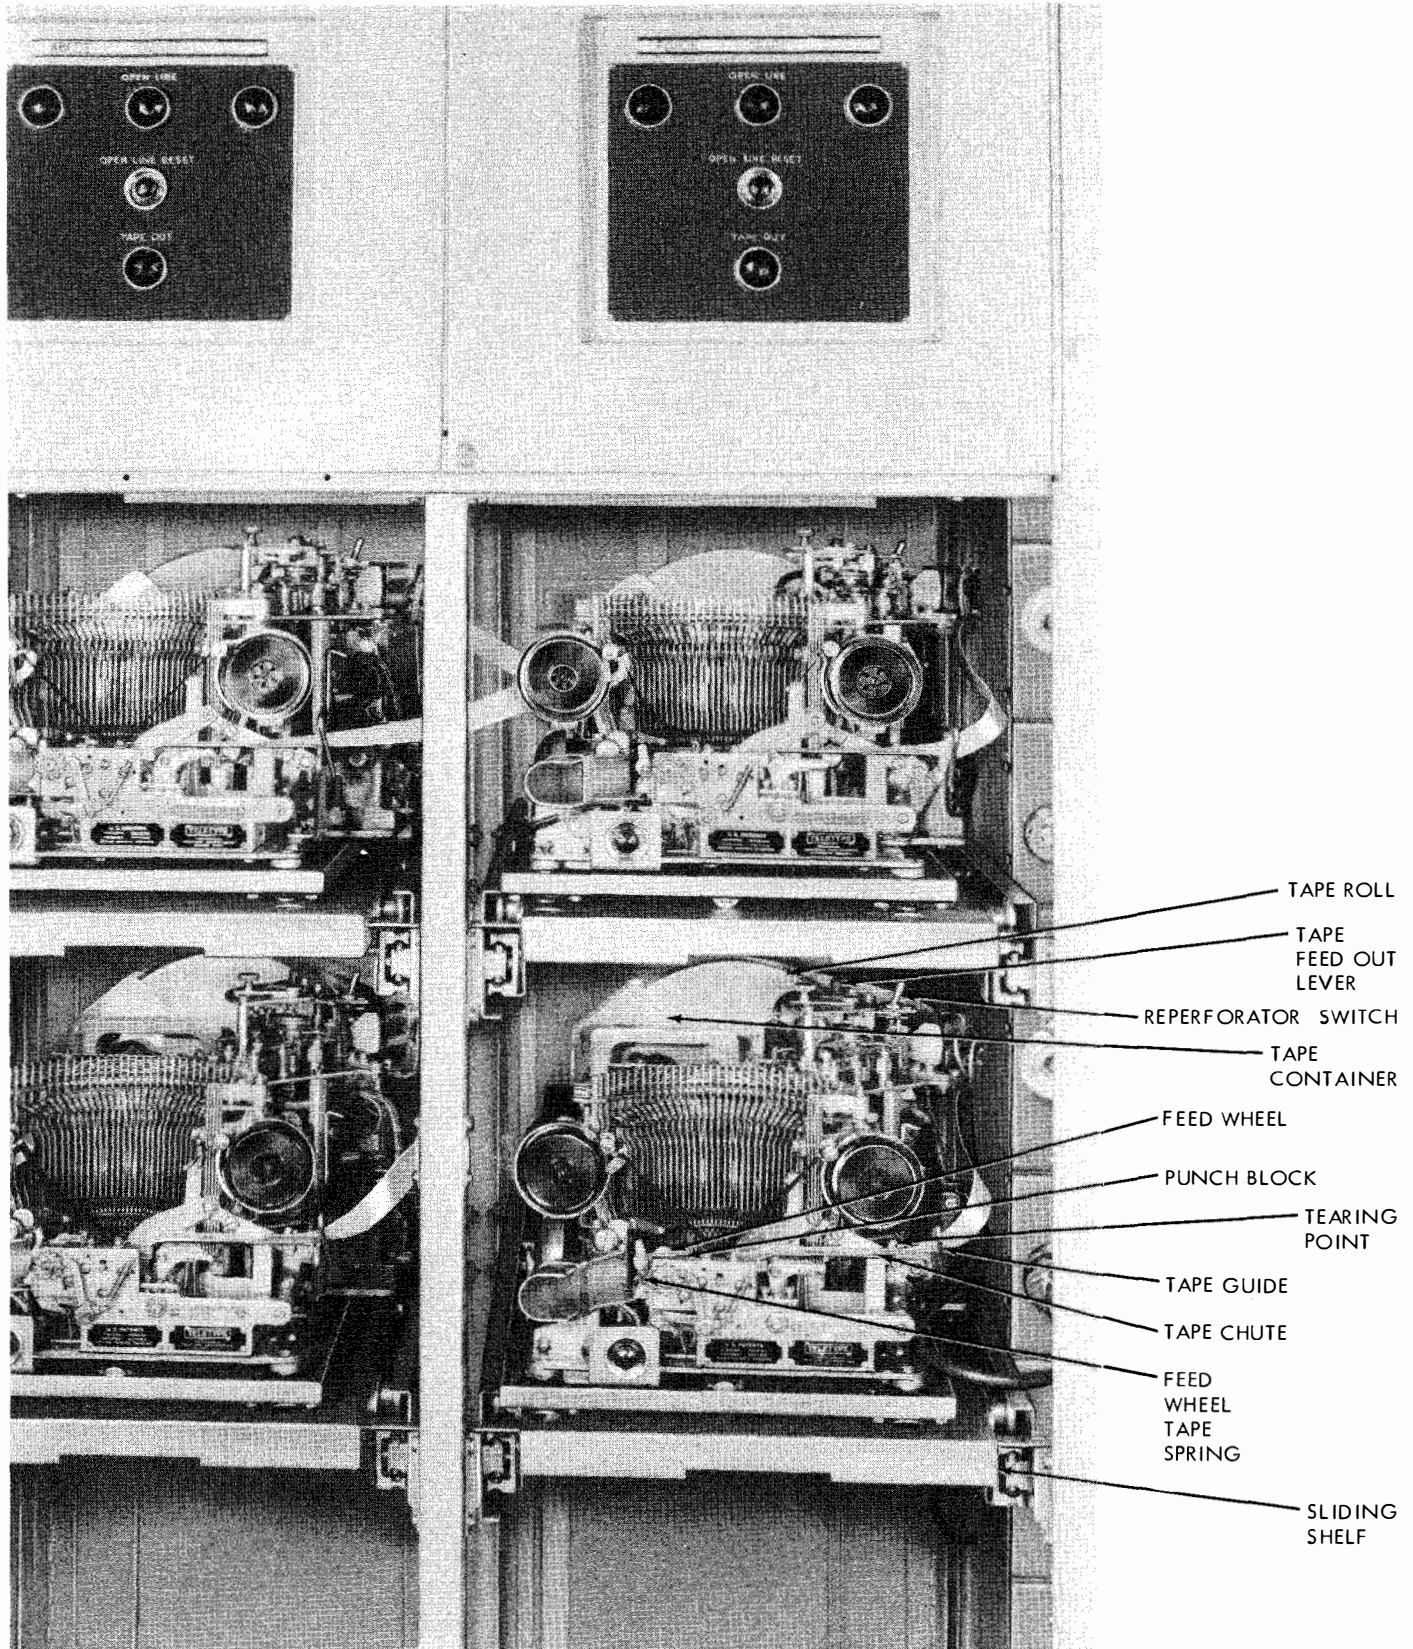

Figure 4-6. Installing Receiver Reperforator Tape
chine is operated (see figure 4-6). Place the new roll of tape in the tape container. The new roll of tape should unwind up and toward the right side of the cabinet. Feed the tape through the guides, through the tape chute and the punch block. Lift the feed wheel tape
(1) Insert one end of the patching cord into the REPERFORATOR jack of the spare reperformator. The reperformator will start to operate as if on open line and the OPEN LINE alarm lamp will indicate an open line.
(2) Insert the other end of the patching cord into the SIGNAL LINE jack of the operating position. This must always be done after the first end is inserted into the REPERFORATOR jack of the spare or an open line will prevail until both plugs are inserted. Reset the OPEN LINE alarm for the spare position. Both reperformators will now be receiving the message.
(3) Watch the operating reperformator for the end of the message in process at the time the spare reperformator was inserted. As soon as the end of the message is received, tear off the partial message received on the spare reperformator and discard. Open the door covering the operating position, turn the power switch on the operating reperformator to the OFF position, and withdraw the shelf from the cabinet.
(4) Tear the tape on the old roll near the right-hand end of the tape chute that feeds the tape into the reperformator. Remove the tape out alarm plug from its receptacle. The rotating tray can be rotated by releasing the holding stud (by pulling down on the thumb nut located on the underside of the sliding shelf in the right front area). This will make the tape more accessible if it is being replaced from the rear. Turn on the power to the reperformator and clear the tape by operating the tape feed-out lever located next to the range scale. Turn the power off.
(5) Replace the old tape roll in the TAPE CONTAINER with the new tape roll unwinding up and toward the right side of the cabinet. (See figure 4-6.) Feed the tape through the tape guide, through the tape chute, punch block, and feed wheel of the reperformator.
(6) If the rotating tray was rotated, restore it to its operating position. Replace the tape out alarm plug. Take the slack out of the tape by rewinding it on the roll. Turn the power on and check tape feeding. Restore the sliding shelf to its operating position and close the door.
(7) Watch for the end of the message being received. As soon as the end of the message has been received, pull out the plug of the patching cord from the SIGNAL LINE jack. This plug must be pulled out first to prevent an open line condition. Pull out the second plug. This will shut off the power to the spare reperformator. Reset OPEN LINE alarm on spare position.